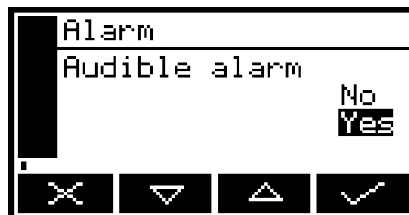

Figure 29: The Audible alarm option screen
2. If the displayed alarm setting is not the required setting, press the  soft key. The Audible alarm option screen will then be displayed: see Figure 29.